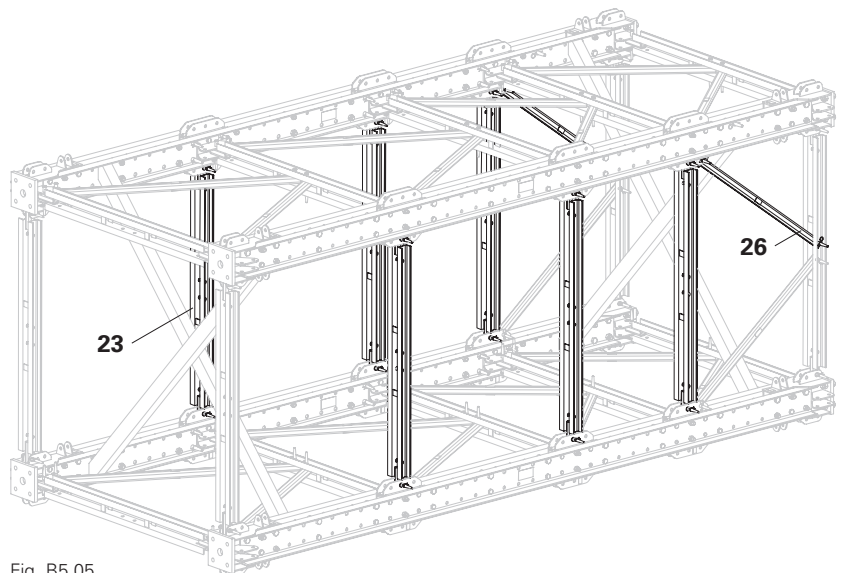

Fig. B5.05
1. Connect the second diagonal strut VST (26)* to the bracing connector VST (8) and horizontal ledger VST 200 (23) using 1x fitting pin \varnothing 21 mm (9) each.
2. Install the required horizontal ledgers VST 200 (23). (Fig. B5.05) (see Section B3, Module assembly)